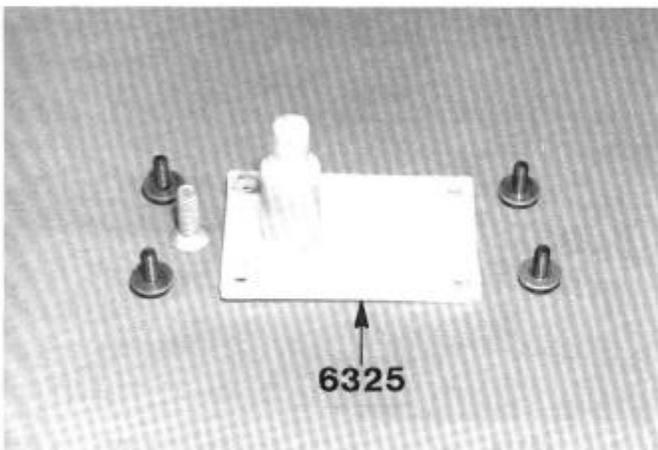

FIG. 97
□ **FIG. 97**—Screw on the rear body post to the transmission brace #6325 as shown.